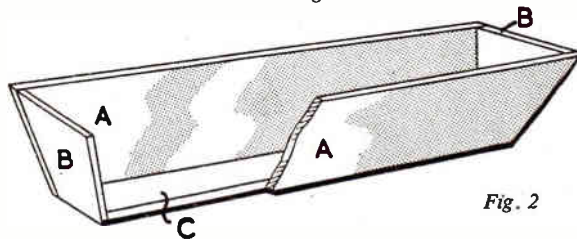

Fig. 2
The cut-out shapes of the front and back are identical, and made with a fretsaw. Glue and screw the front and back and two ends together, or nail if preferred, noting that the ends go between the back and front (Fig. 2).
The floor (C) goes inside the bottom of the trough thus far assembled, and must therefore be chamfered all round to give a nice fit (Fig. 2). Allowance for this chamfer must be made when cutting out the floor. Chamfer with a plane or Surform tool, taking off a little at a time and constantly checking to ensure a good fit before finally fixing in place.